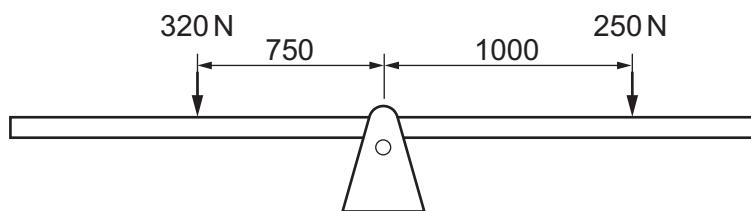

Fig. 10.1
- (b) Fig. 10.1 shows a see-saw with the position of two loads marked.